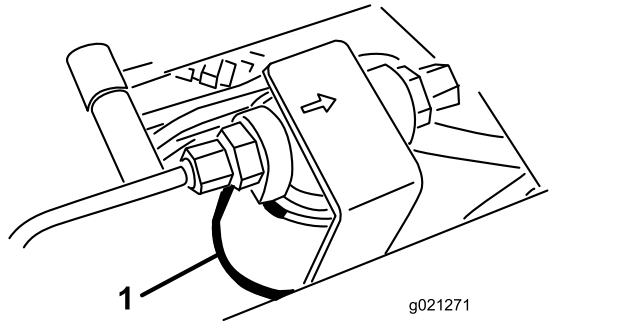
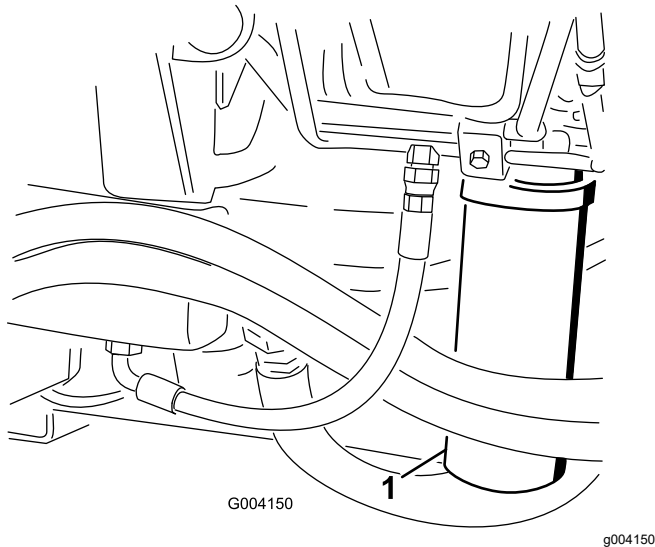

Figure 102
Figure 103
- Clean the area around the filter-mounting area and place a drain pan under the filter (Figure 102) and (Figure 103).